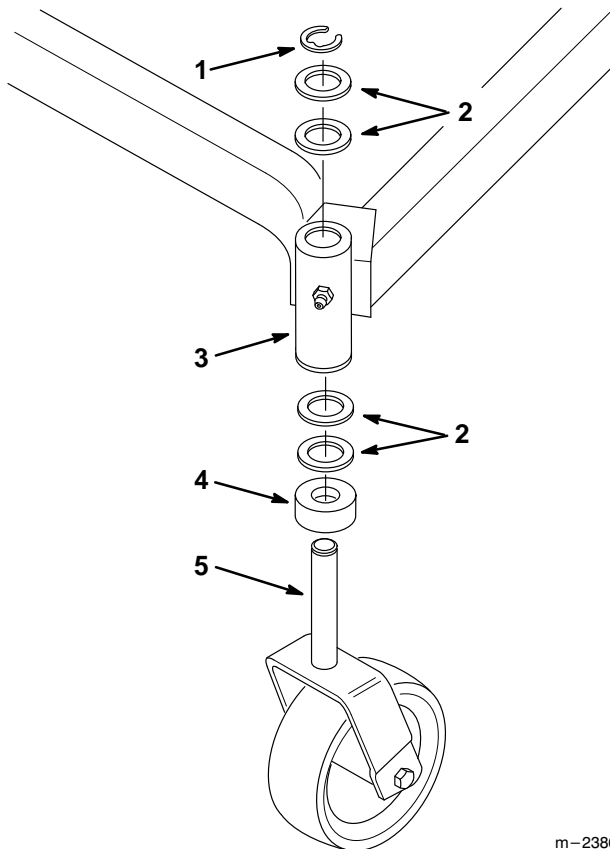

Figure 1
1. Place the spacer and two (2) thrust washers onto the castor wheel fork (Fig. 1).
2. Insert the castor wheel fork into the carrier frame mounting tube (Fig. 1).
3. Install two (2) thrust washers onto the castor wheel fork, then secure with a retaining ring (Fig. 1).